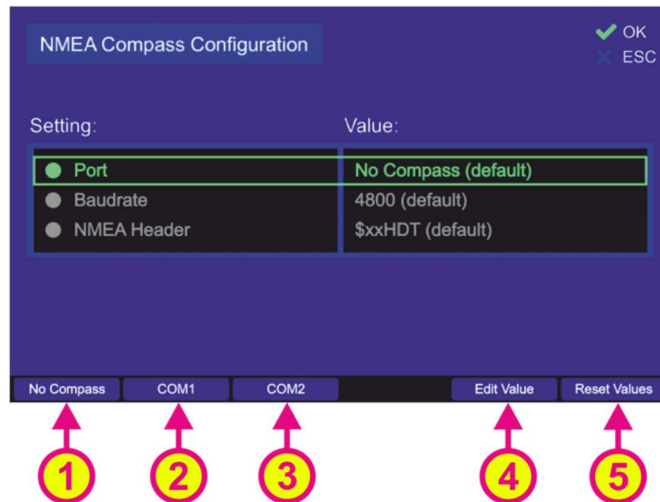
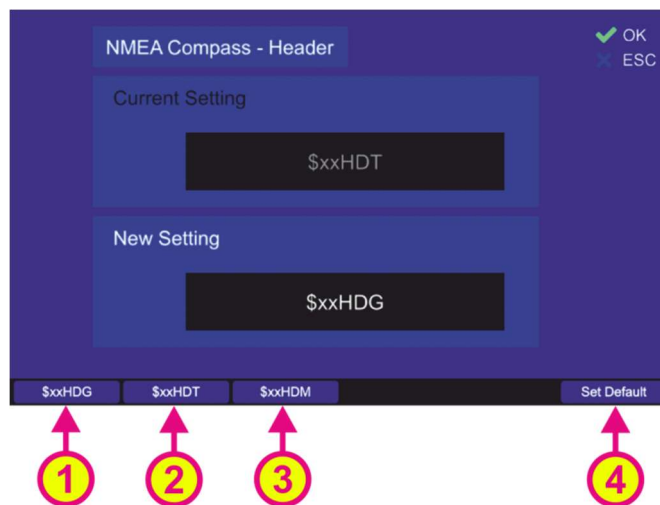

Figure 155. Compass configuration settings
Figure 158. Compass header setting
- Press the button “OK” or hotkey “Edit Value”, while the setting “NMEA Compass” is marked. Following sub-menu will appear (s. Figure 155).
Pressing the hotkey “Reset Values” (s. Figure 155, position 5) will set all menu items to default values. To go out of dialog confirming all changes, which have been made within the sub-dialogs for the single settings, press “OK”.
- The communication port can be changed by pressing one of the visible hotkeys, e.g.: “No Compass”, “COM1” or “COM2” (s. Figure 155, positions 1, 2 or 3), or the hotkey “Edit Value” while menu item “Port” is marked (s. Figure 155, position 4). Using the hotkeys 1, 2 or 3 on the top level dialog “NMEA Compass Configuration” (s. Figure 155), the value of the “Port” setting can be changed without opening the corresponding dialog.
- To change the baud rate, press the hotkey “Edit Value” while the menu item “Baudrate” is marked (s. Figure 155). The corresponding sub-dialog will be opened (s. Figure 157).
- In order to change the NMEA header setting, press the hotkey “Edit Value” while the menu item “NMEA Header” is marked (s. Figure 155). The corresponding sub-dialog will be opened (s. Figure 158).
- Choose the new setting using one of the hotkeys (s. Figure 158), which will then appear in the “New Setting” field:
- Press the hotkey “Set Default” (s. Figure 158, position 4) to use the default value (“\$xxHDT”).